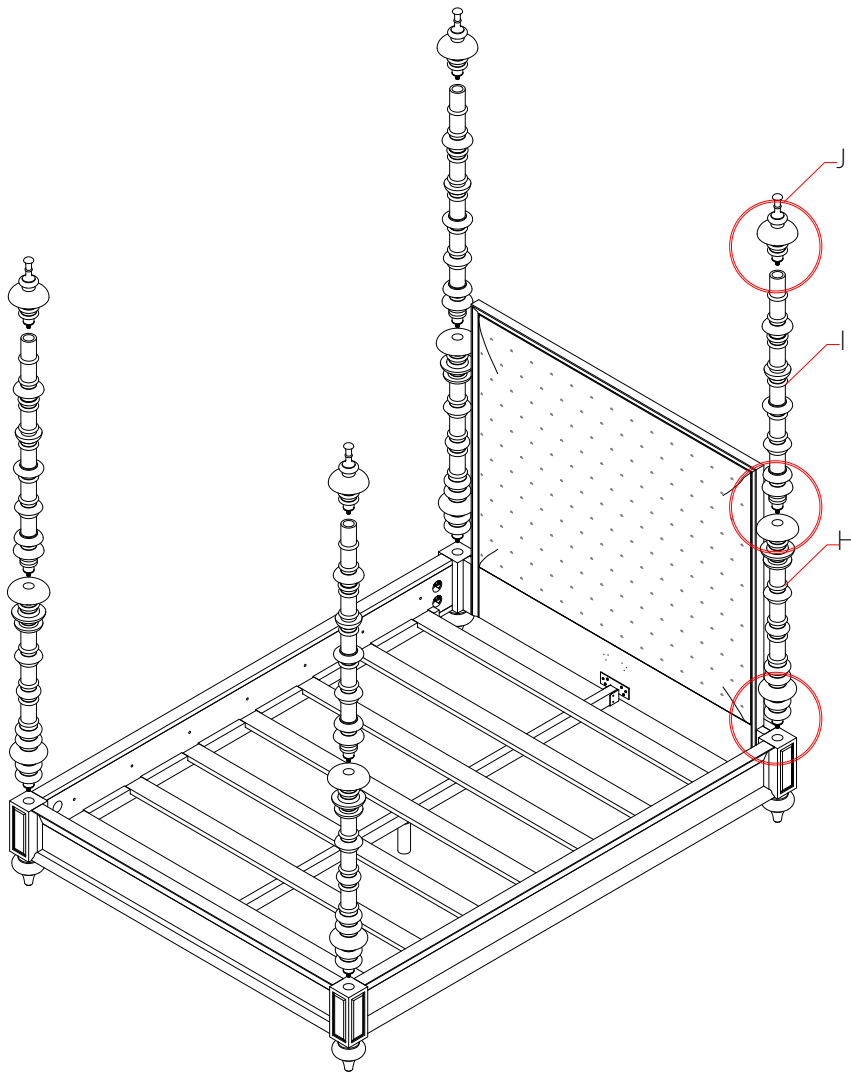

FIGURE 10
8. Install all the posts (H / I) and finials (J) on the headboard (A) and footboard as shown in FIGURE 10.